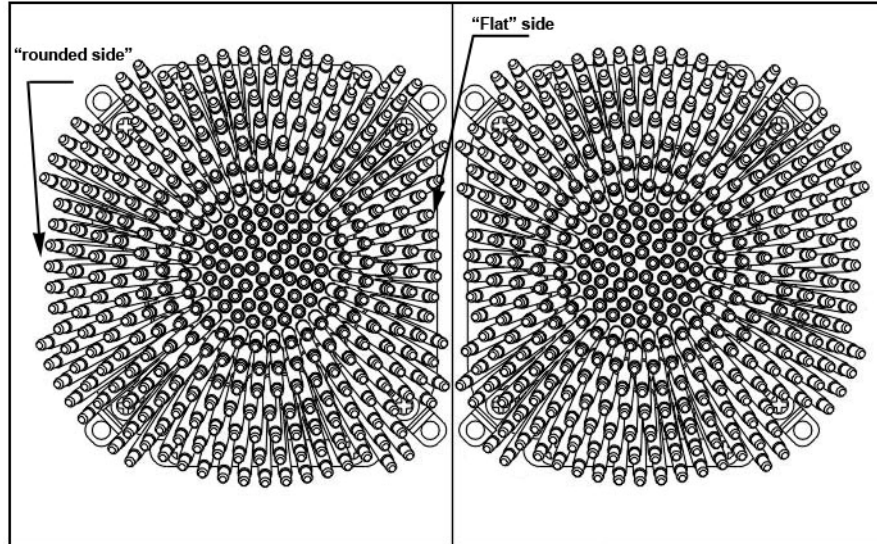

Figure 1
- Tighten the standoffs as shown figure 1, using a ¼" socket tool to drive the standoff, and a small pair of pliers to prevent the locknut from spinning. Torque value should not to exceed 16 in. lbs. In other words just tight, without excessive torque, otherwise the standoff stem may snap.